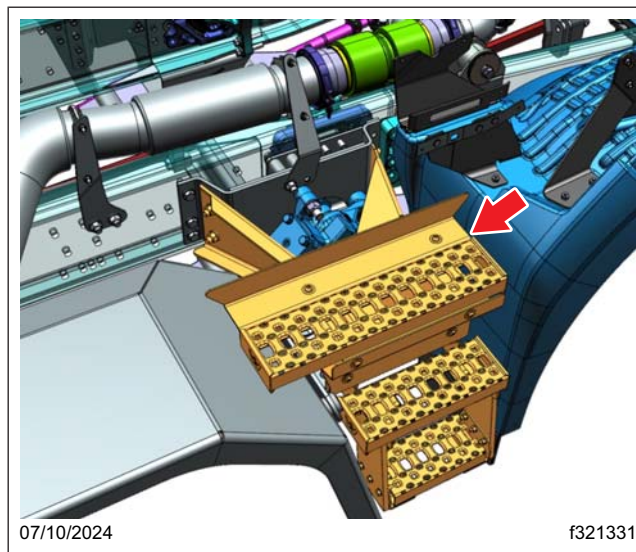

Fig. 13, Right-Hand Side Step and Bracket
1. Remove the cab access step and mount bracket. See Fig. 13.